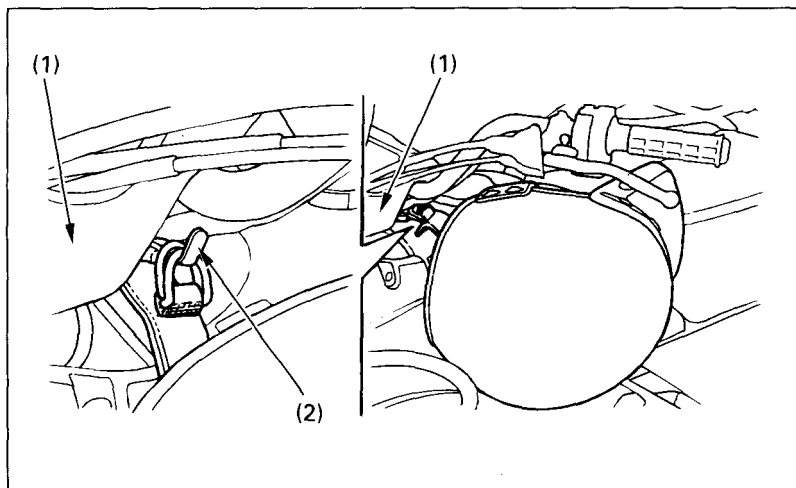

Fig. 2-20 (1) Handlebar cover
The helmet holder (Fig. 2-20) is a bracket near the left side of the handlebar cover (1). To use the holder, hang the D-ring on your helmet strap over the bracket. Use the helmet holder only when the FOURTRAX is parked.